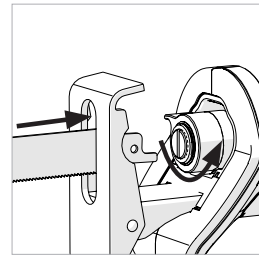

Fig. 2
- Twist and hold the blade clamping dial anti-clockwise. **(Fig. 2)**